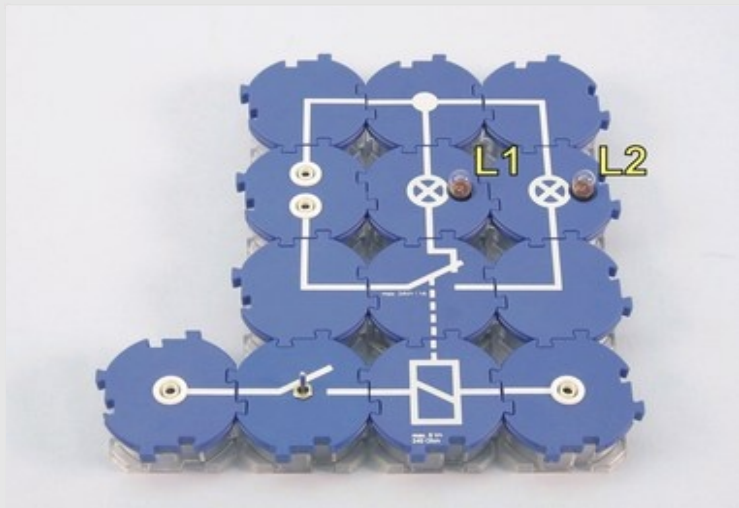

Fig. 6
- Close the working circuit 1 again with the bulb (Fig. 6 and Fig. 7). Close and open the control circuit several times with the off switch. Observe both bulbs and note your observations in the report under "Result - Observations 3".